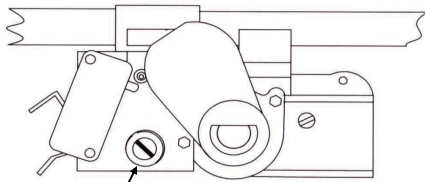
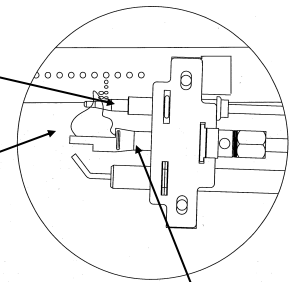

Fig. 5
Fig. 6
5. Once the pilot is lit, locate the pilot adjustment screw on the lower left hand side of the oven thermostat control. See Fig. 5. Access the pilot adjustment screw through the opening behind the oven temperature control knob. With a straight blade screwdriver rotate the screw till the outer tip of the flame is just barely reaching the underside of the end of the flame safety probe. See Fig. 6.